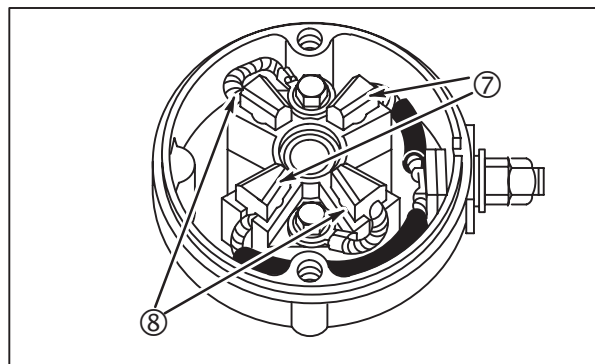

Fig. 24
1. Install positive (7) and negative (8) brushes with beveled edge UP in position shown, **Fig. 24**.